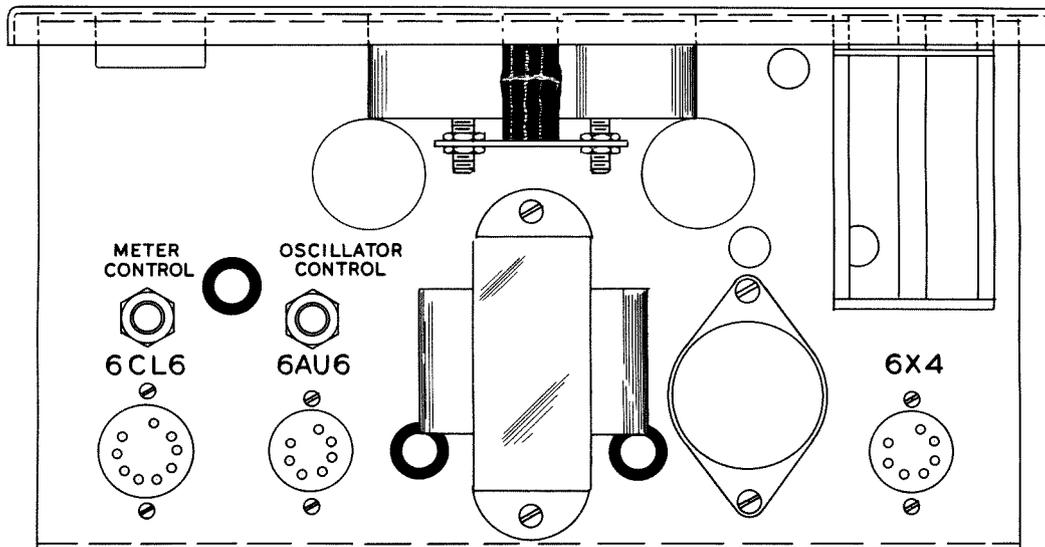

Figure 14
- (✓) Install the 3 watt 115 volt candelabra lamp and the 6X4, 6AU6 and 6CL6 tubes in their proper sockets. See Figure 14.